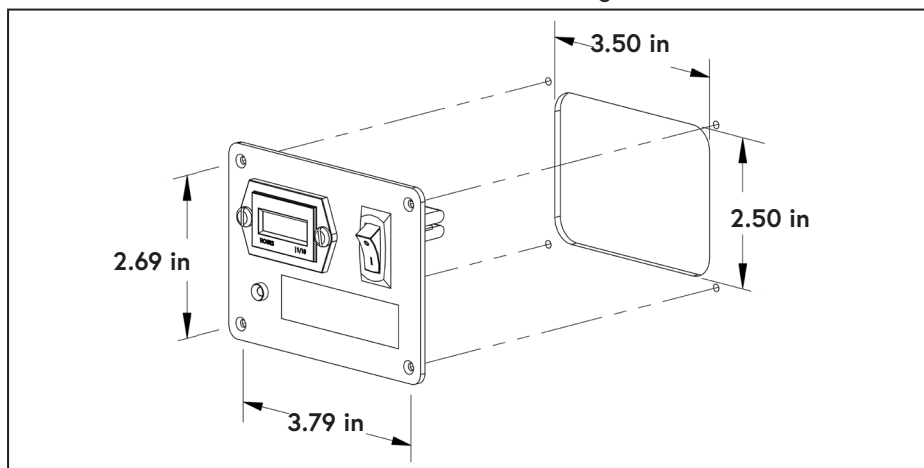

Figure 63 — Interface Panel mounting dimensions
- Install the Interface Panel in a suitable location (Figure 63).